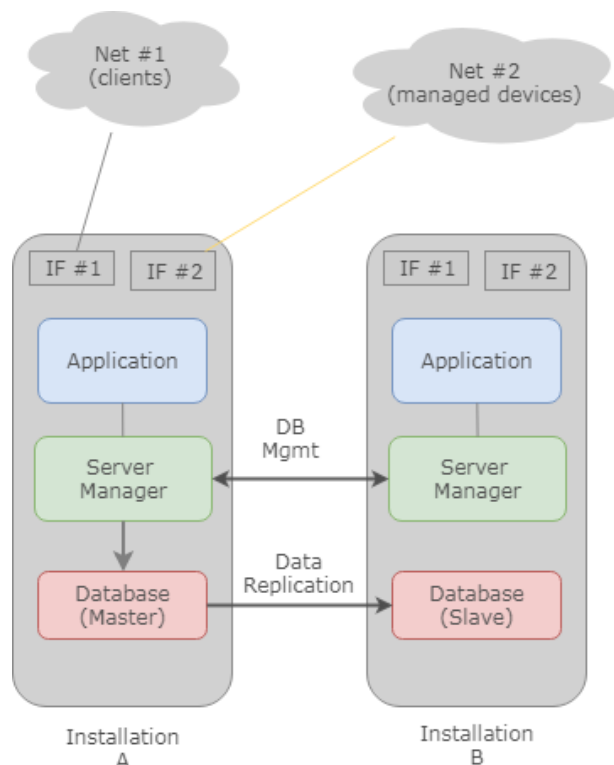

Figure 146: Database Replication - Redundant Operation
1. Server instance 'A' acts as replication master for the database, server instance 'B' acts as replication slave. New data is stored in the master server's database and subsequently replicated into the slave server's database (Figure 146).
1. Server instance 'A' acts as replication master for the database, server instance 'B' acts as replication slave. New data is stored in the master server's database and subsequently replicated into the slave server's database (Figure 146 on page 157).